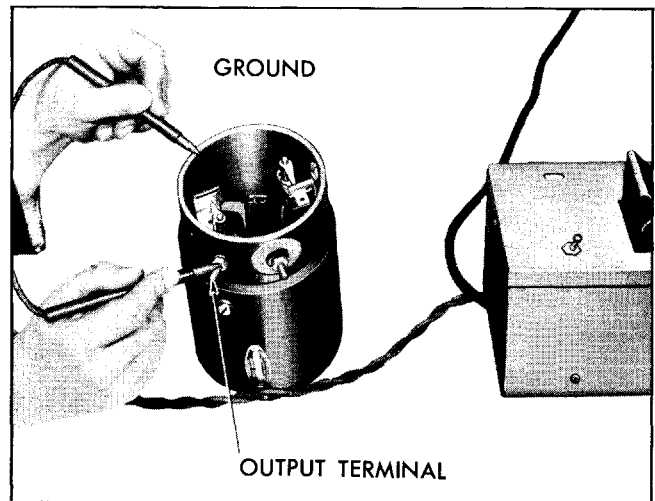

Fig. 12-21 Testing Positive Terminal for Ground
g. Using a 110-volt test lamp, place one lead on generator positive (or output) terminal on generator frame, and place other lead on ground (touch to generator frame) (Fig. 12-21). (Be sure loose end of terminal lead is not touching ground.) If lamp lights, positive terminal insulation through generator frame is broken down and must be replaced.